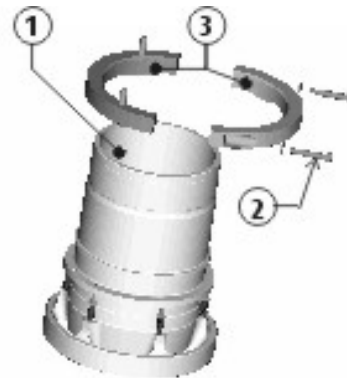

Fig.66: Remove cam ring
1. Refer to Figure 66, Page 34. Place the cylinder liner upside down on the working bench, unscrew both fitted bolts (1), remove both locking rings (2) and subsequently remove both cam ring halves (3) from the cylinder liner.